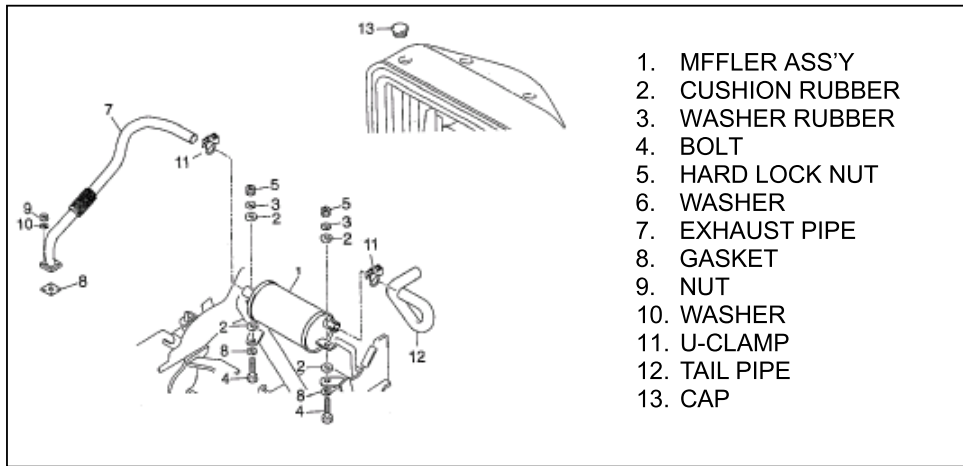

FIGURE 8
See FIGURE 8 and 9
**Muffler Replacement (See FIGURE 8 and 9)**
The counterweight must be removed to install the muffler. When replacing parts of the exhaust system, see FIGURE 8 and 9. When connecting the exhaust pipe to the engine do the following: